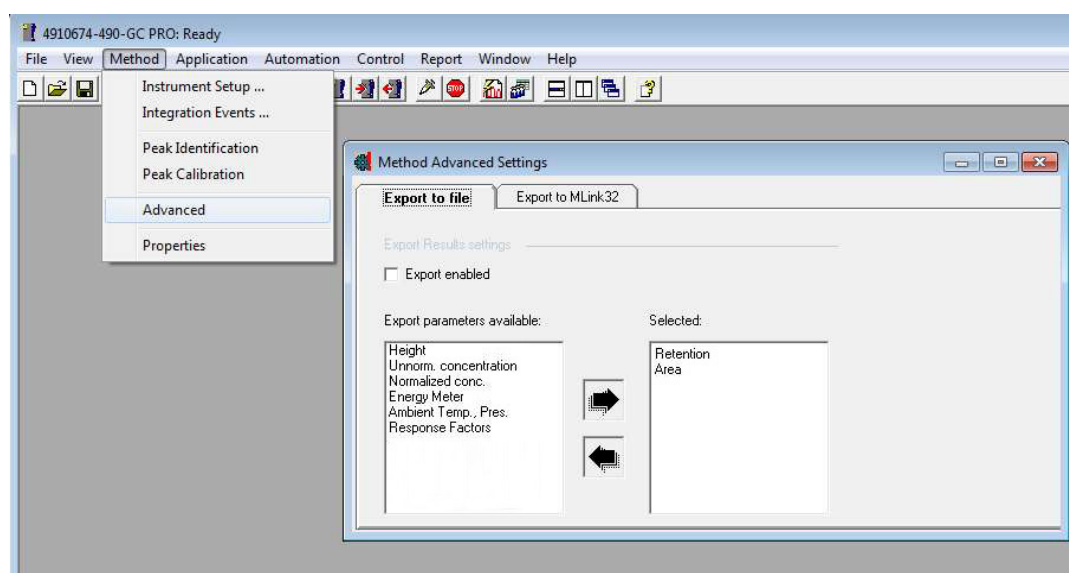

Figure 56: Method Advanced Export Results settings
- Select “Export enabled” option. Define which parameters to export, Figure 56.